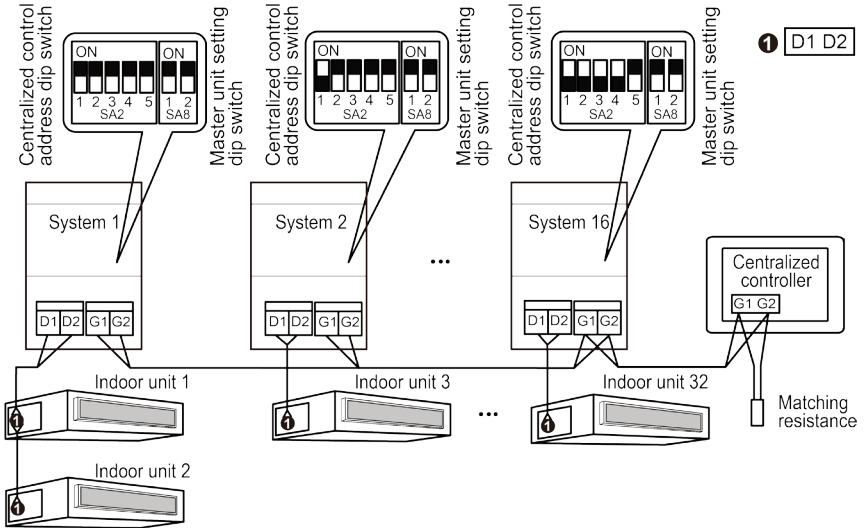
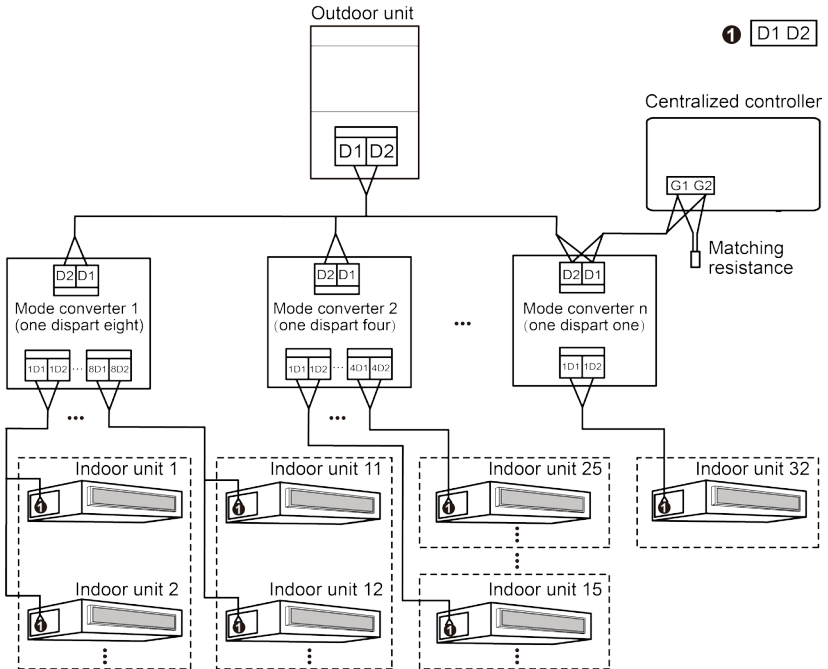

Fig.3.5 Centralized Controller Connected with Outdoor Network
Fig. 3.6 Centralized Controller Connected with Heat Recollection Mode Converter Network
- ③ If the centralized controller is to be connected with the network of outdoor units, connect according to fig.3.5. The centralized controller can only be connected with the terminal system of the outdoor network. A matching resistance needs to be added with the communication cords at the G1 and G2 ports.
- ④ The centralized control address DIP switch (SA2_Addr-CC) indicates the centralized control address required when different refrigerating systems are controlled in a centralized manner. The default factory setting is "00000".
- ⑤ If the centralized controller is to be connected with the network of heat recollection, connect according to Fig.3.6. The method 2 is also applicable to centralized controller switching in heat recollection network.